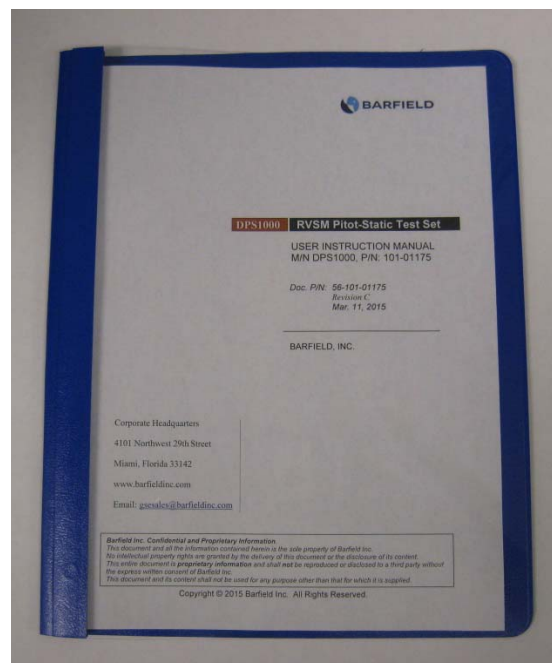

Figure 12 Instruction Manual, P/N 56-101-01175
- (1) Instruction manual P/N 56-101-01175, see Figure 12.